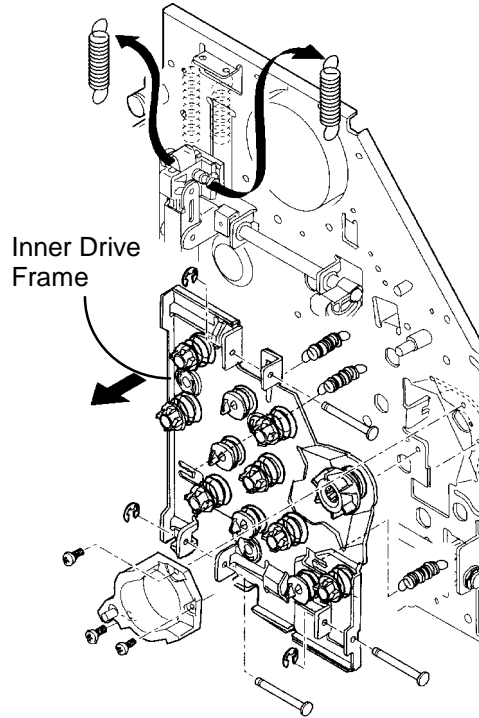

Figure 4. Removing the Inner Drive Frame
6. (Figure 4): Remove the Inner Drive Frame.